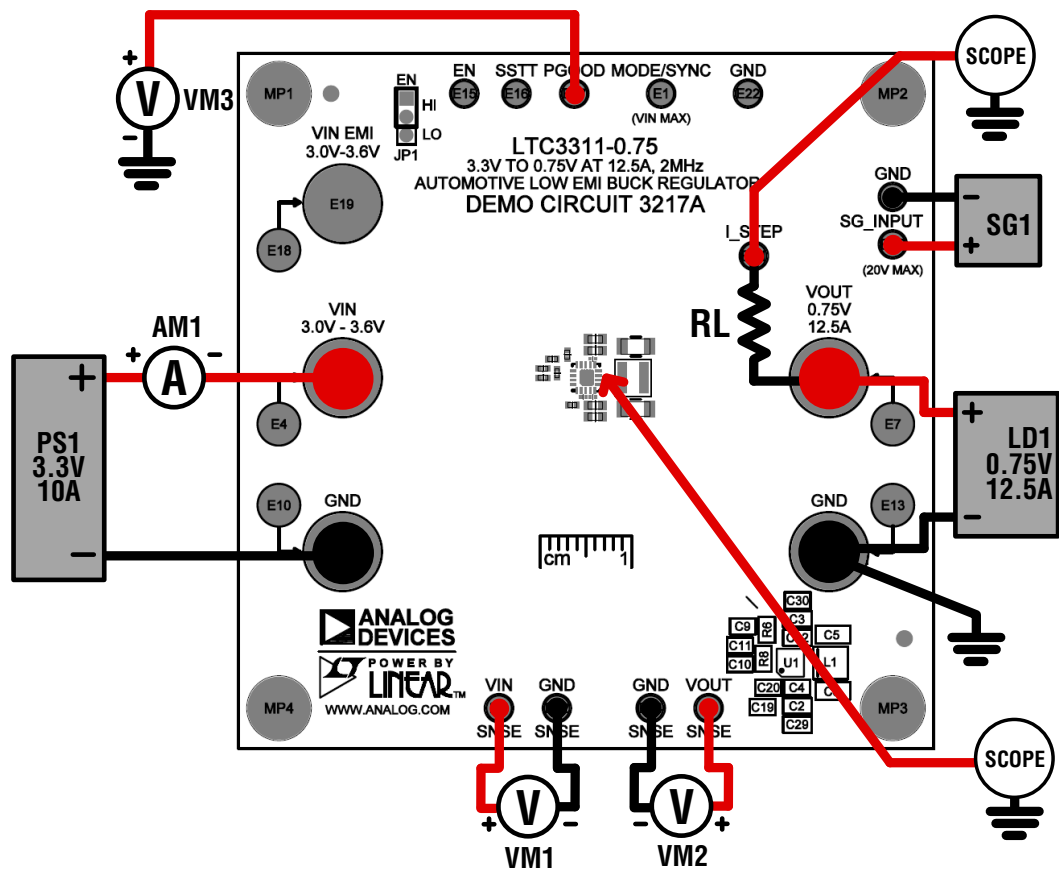

Figure 2. Test Setup for DC3217A Demo Board
Refer to Figure 2 for the proper measurement equipment setup and follow the procedure below:
NOTE: For accurate V_{IN} , V_{OUT} and efficiency measurements, measure V_{IN} at the VIN SNSE and GND SNSN turrets, and measure V_{OUT} at the VOUT SNSE and GND SNSE turrets as illustrated as VM1 and VM2 in Figure 2. When
7. To test the transient response with a base load, add the desired resistor to produce a minimum load between VOUT and I_STEP turrets (R_L shown on Figure 2). Note that the total load resistance will be R_L plus R10 (10mΩ). Adjust a signal generator with a 10ms period, 10% duty cycle and an amplitude from 1V to 2V to start.